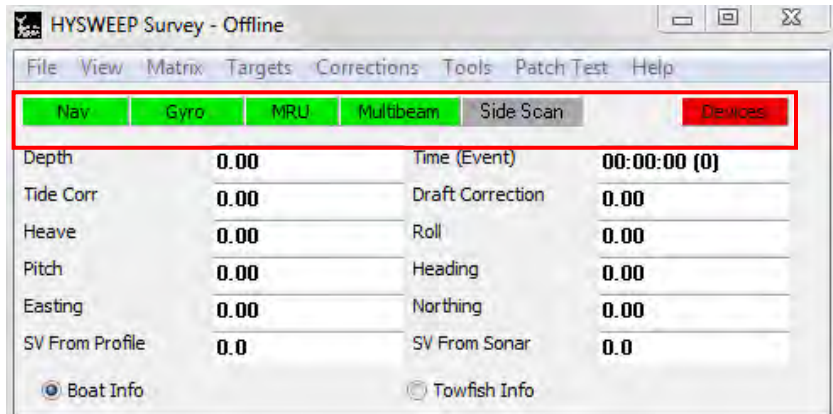

Figure 37: HySWEEP survey alarms
- ⇒ All the alarms on the "HySWEEP survey" window (NAV, Gyro, MRU, Multibeam, Devices; not the Side Scan that stay in gray; Figure 37) must be green! Pay also attention that the "Boat Info" option is selected to obtain live data from the Pico.
- Close "HySWEEP survey" window (Figure 37) and save the logged data
- ⇒ To change the way in which live data are displayed, press the "View" button on the HySWEEP survey windows (Figure 37) and then choose your preferences (Profile, 3D Seafloor, Multibeam Waterfall, Real Time Point Cloud,...)